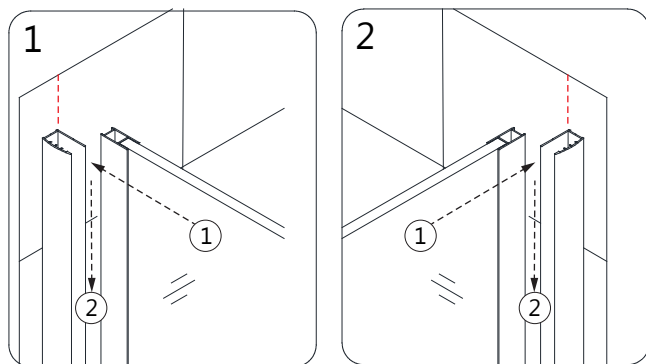
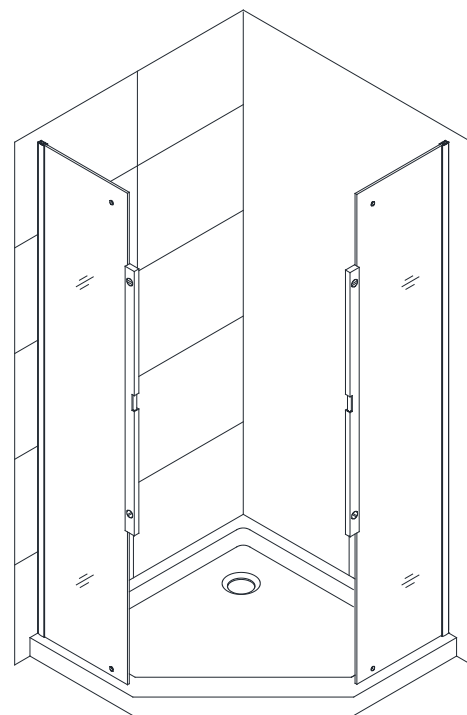

Fig 4a
Fig 4b
4. Be sure the **Panel Glass (#03)** and **Glass Profiles (#01)** have had time to set up before handling. Insert each assembled **Panel Glass (#03)** and **Glass Profile (#01)** into the installed **Wall Profiles (#03)** and check the panels for plumb. If necessary, adjustments can be made by moving the **Glass Profiles (#01)** within the **Wall Profiles (#03)**. Use caution not to pull the **Panel Glass (#03)** out of the **Glass Profiles (#01)**. (Fig 4a and Fig 4b)